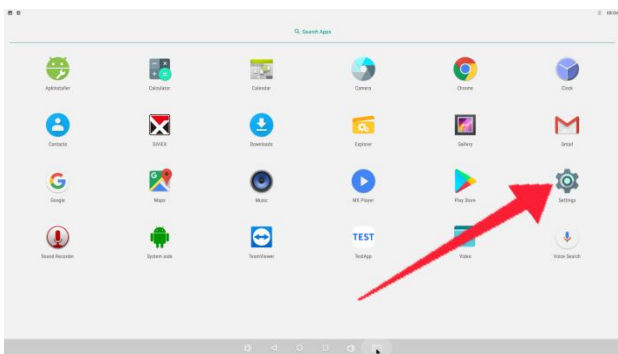

Fig. 1
1. Click the "setting"(Fig. 1);